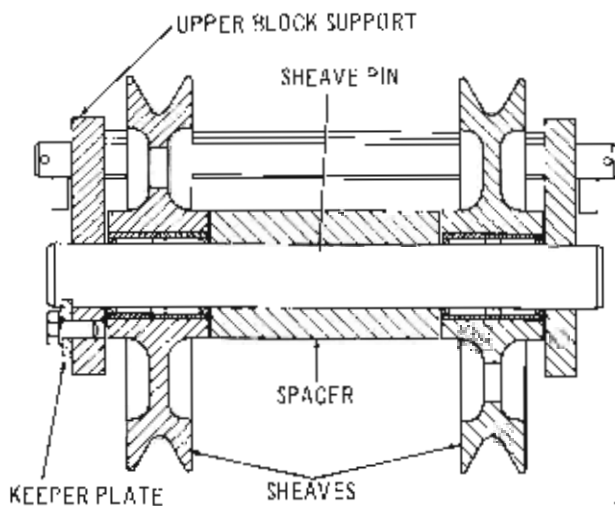

Figure 5-29. Upper Block for Hevi-Lift Hoist with Four Part Double Reeving
6. Remove the keeper plates and slide out the sheave pin from the upper block (Figure 5-29). As you slide the pin out, remove the sheaves and spacer one at a time because the sheave pin is the only means of holding them in place. Remove the wire rope from the sheaves.